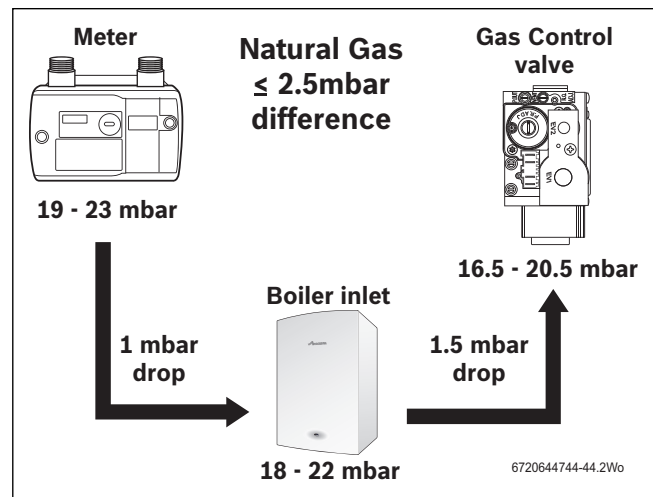
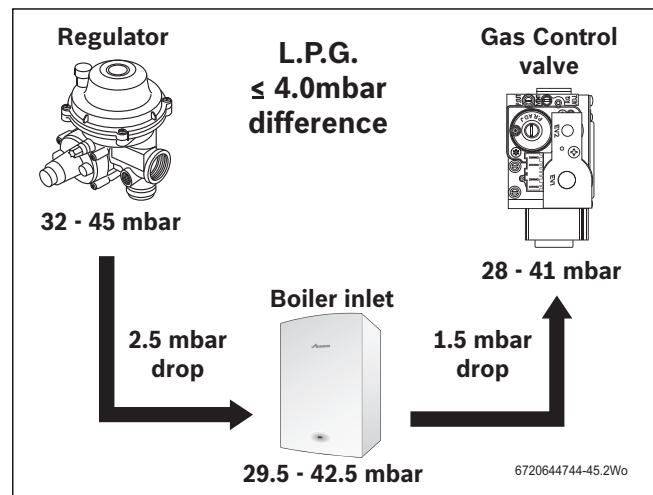

Fig. 54 Natural gas pressures
Fig. 55 L.P.G. pressures
- Press the Performance test button (J) for more than ten seconds and set Central Heating temperature to maximum.
- The Performance test button (J) will illuminate continually and the display (C) will alternate between  $\square$  and the central heating flow temperature.
- ▶ Check the gas supply working pressure at the gas valve conforms to values shown in Fig. 54 or Fig. 55 .
If the pressure drops are greater than shown in figure 54, then this would indicate a problem with the pipe work or connections within the system.
If the pressure drops are greater than shown in figure 55, then this would indicate a problem with the pipe work or connections within the system.